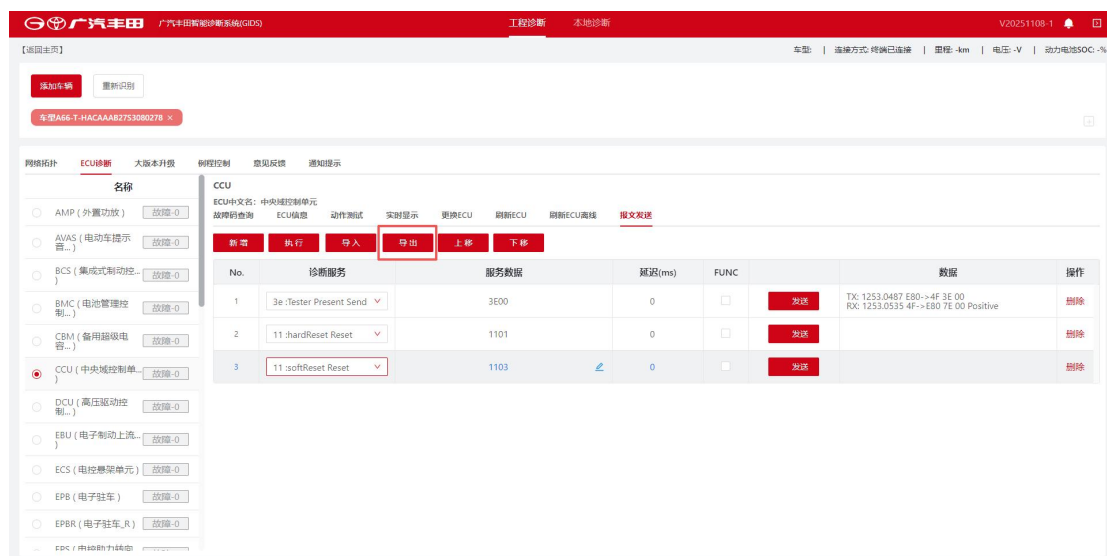

Figure 5-41 Export File
3. Click [Export], as shown in Figure 5-41 Export File, to export the data file.